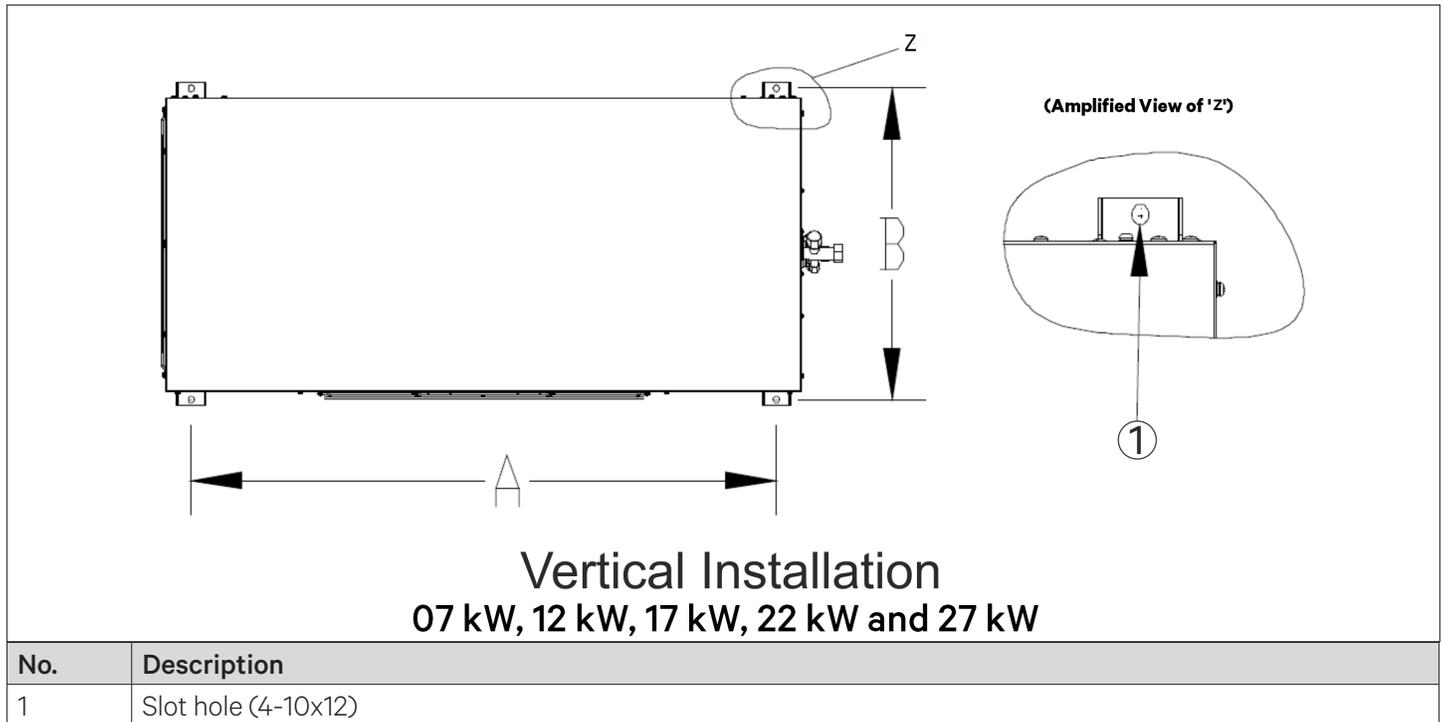
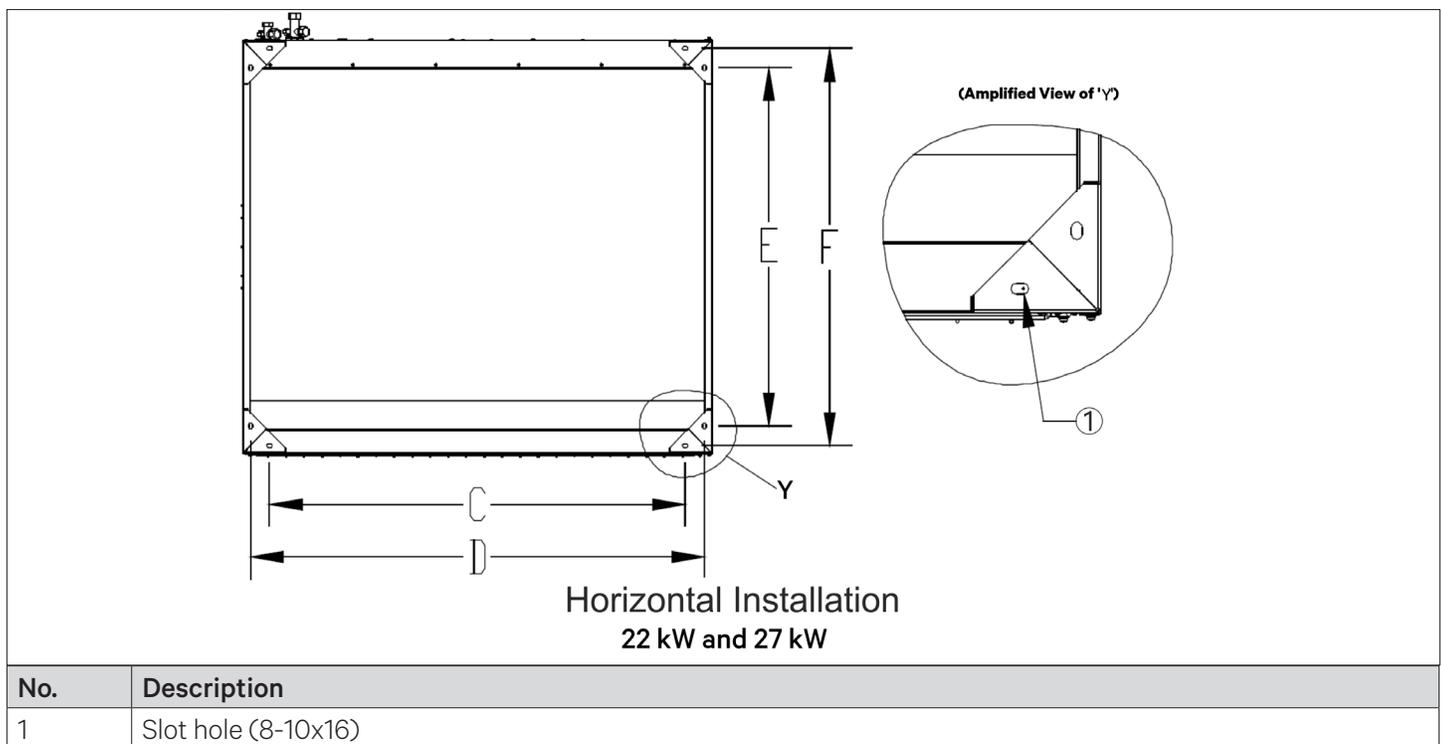

Figure 2-12 Hole Dimension of Outdoor Unit Base (Vertical Installation)
Figure 2-13 Hole Dimension of Outdoor Unit Base (Horizontal Installation)
2. Fix the outdoor unit onto the base with expansion bolts, refer Figure 2-12 and Figure 2-13 for the vertical and horizontal installations of the outdoor unit respectively. The hole dimension of the base for vertical and horizontal installations are given Table 2-4